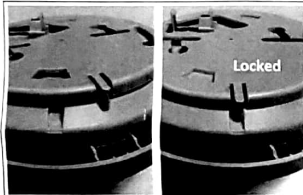

Figure 5
- Unlock the detector unit from the base by push back the snap lock with a screw driver and turn the alarm unit anti-clockwise to release it. See Figure 5 and Figure 6
- Gently unlock the detector unit from the base by push back the snap lock with a screw driver and turn the alarm unit clockwise to release it. See Figure 5 and Figure 6